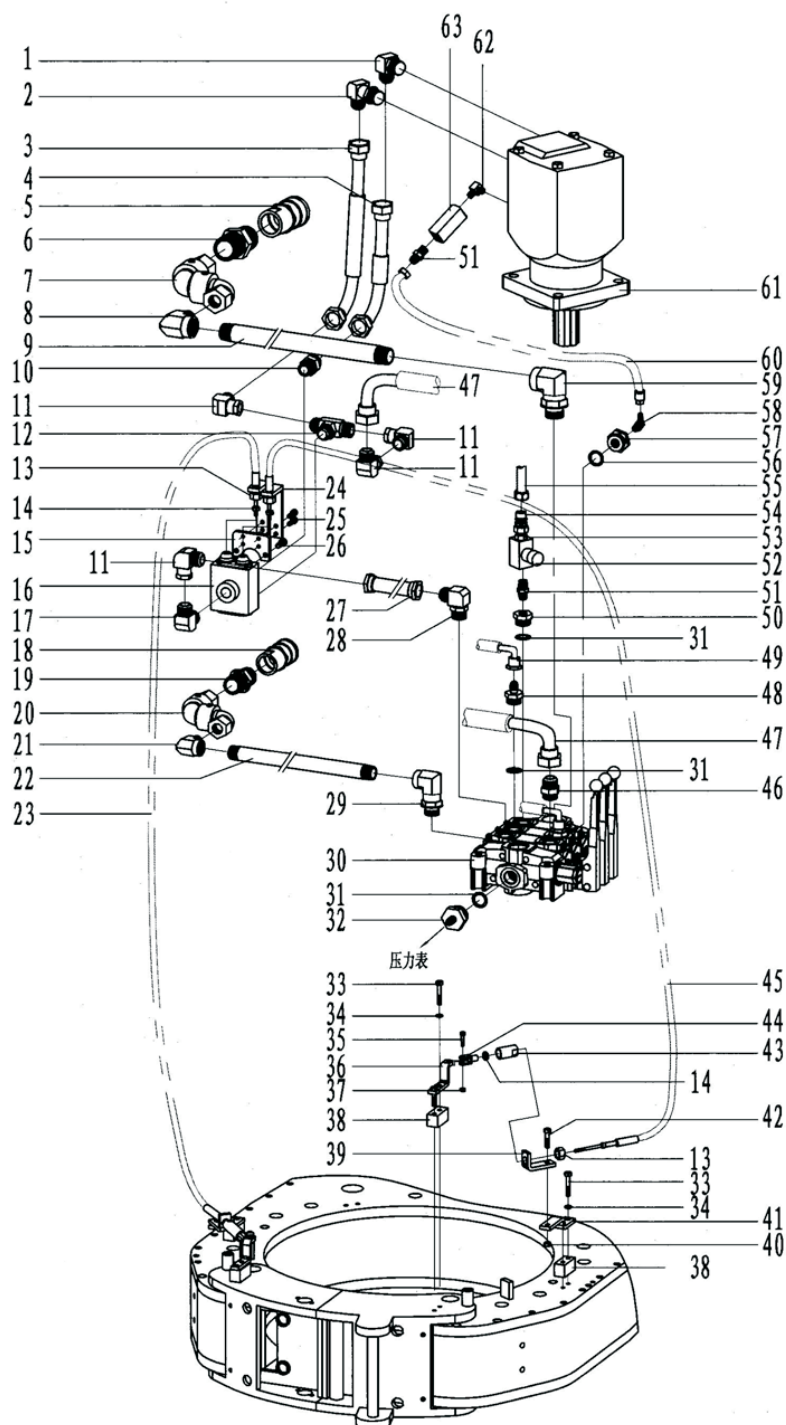

Fig.11
7.10-2 Double shaft gated pipeline (Fig.11,Table11)